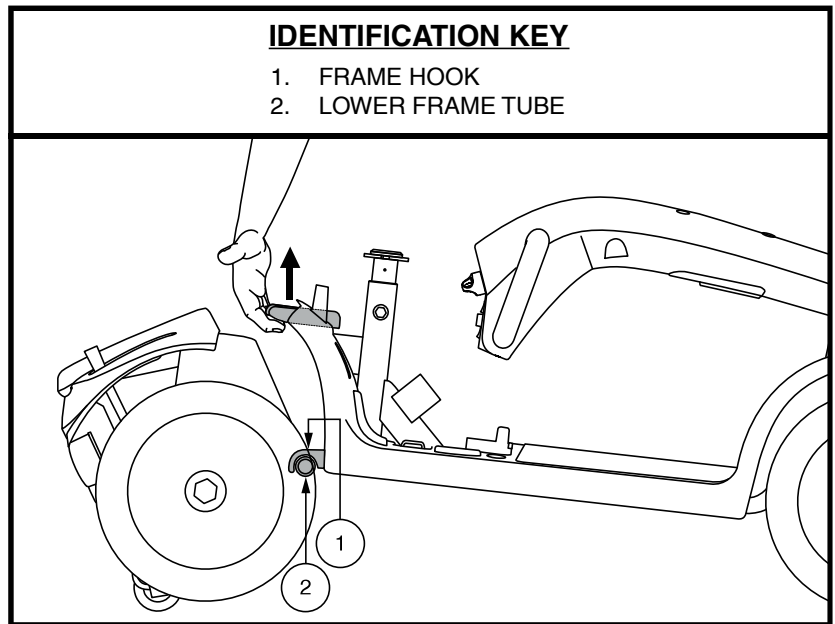

Figure 24. Frame Release Lever
3. Grasp and lift up on the frame release lever. See figure 24.
1. Position the front and rear sections of your scooter as shown in figure 24.